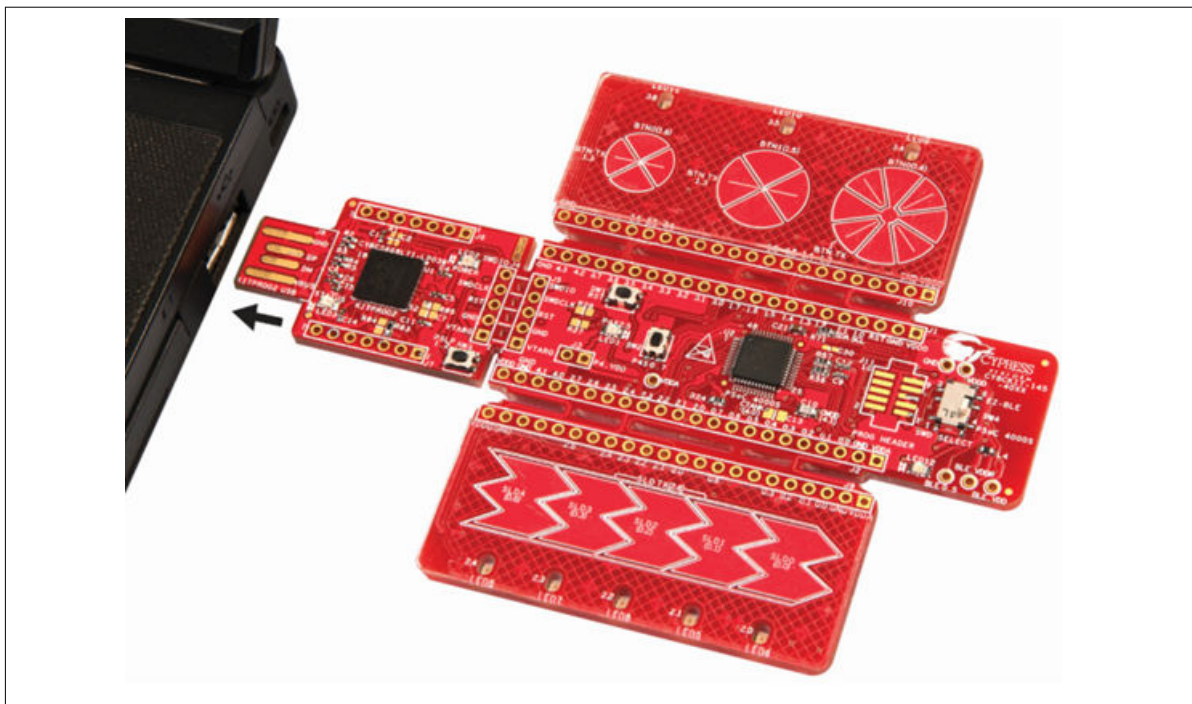

Figure 7 Connecting the PSOC™ 4000S Prototyping Kit to the PC
1. Connect the prototyping board to your PC using the PCB USB connector (J8), as shown in Figure 7
1. Connect the prototyping board to your PC through the PCB USB connector (J8), as shown in Figure 7. The kit enumerates as a USB composite device if you connect it to the PC for the first time. KitProg3 operates in CMSIS-DAP Bulk mode; the status LED3 (amber) is always ON in CMSIS-DAP Bulk mode. If you do not see the correct LED status, see the KitProg3 user guide for details on KitProg3 status and troubleshooting instructions